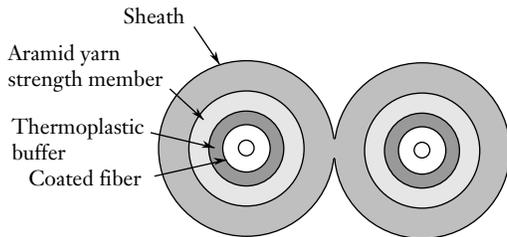

Figure 4 Zipcord Cable
4.2 Corning Cable Systems Zipcord (Figure 4) and Single Fiber Cables are designed for use as “jumpers,” “patch cords,” or “pigtailed” in intrabuilding distribution. Both cables have the bandwidth to transport all voice, data, and video signals required in an automated office environment.